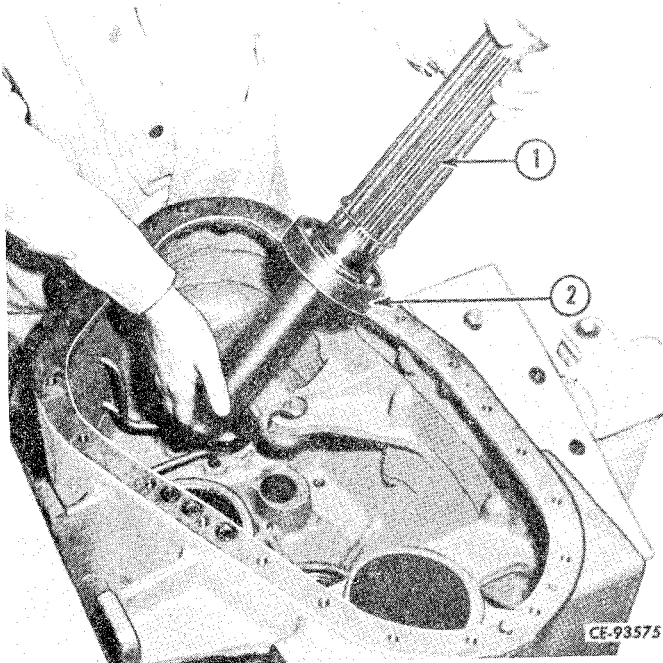

Figure 4-45
Remove the countershaft (1, Fig. 4-45) with bearing (2) from the transmission case.